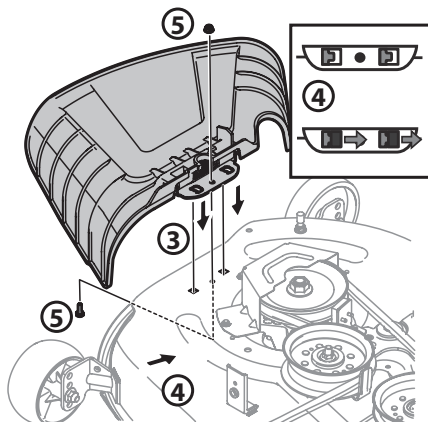

Figure 11
3. Place the chute deflector on the deck, be sure to insert the tabs on the chute deflector into the holes on the deck. See Figure 11.
4. Slide the chute deflector toward the rear of the tractor until the bolt hole in the chute deflector aligns with the hole in the deck. See Figure 11.
5. Secure the chute deflector in place with the flange lock nut and hex screw removed in Step 2. Tighten to 102-124 in-lbs (12-14 N-m). See Figure 11. Skip ahead to Setting the Deck Wheels.